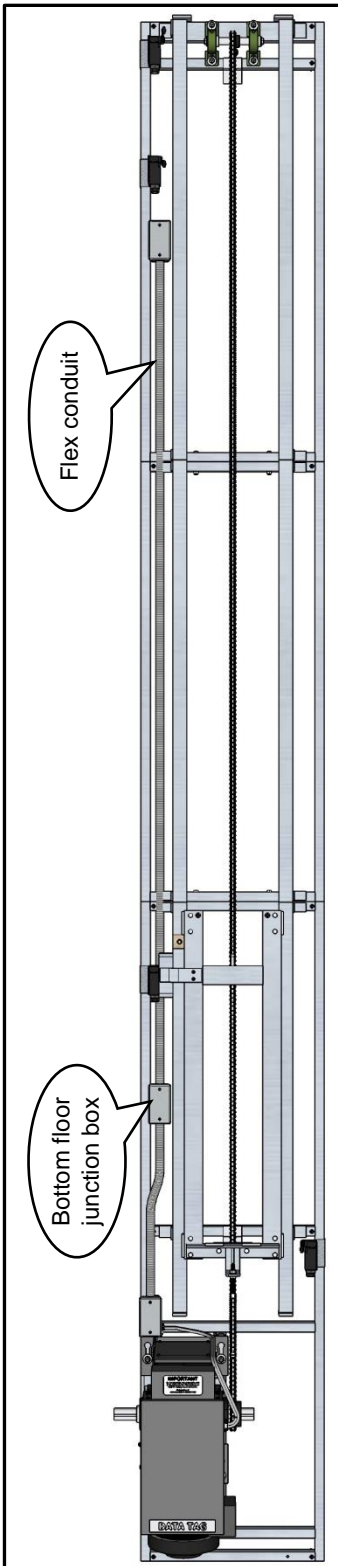

Figure 18
- 1 Lower flex conduit from top floor and connect to junction box at bottom floor. (see Figures 18 & 19)